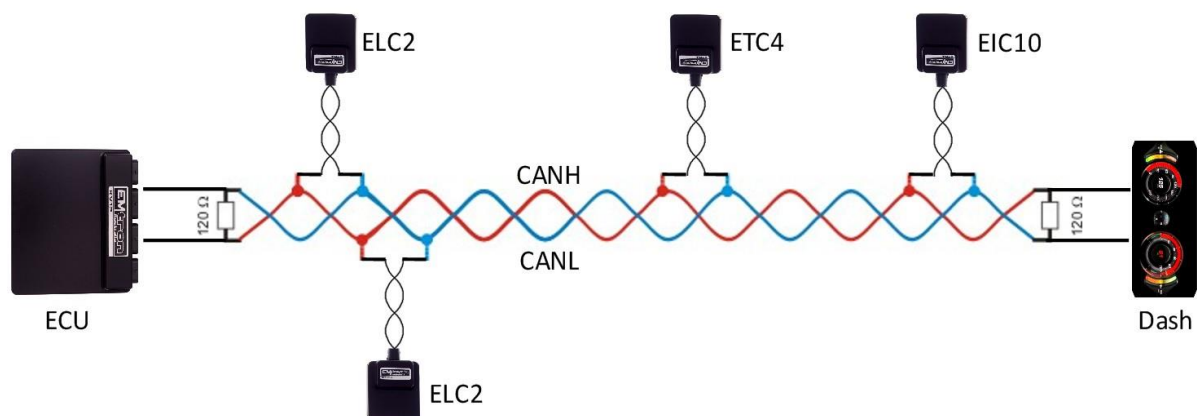

Figure 3.1. Example. ECU and Dash at each end with 120 Ohm Termination
- CAN Bus termination must be done correctly by using a 120 ohm 0.25W resistor at each END of the bus system. See the example in Figure 3.1.
ALL Emtron CAN devices do **not** include an on-board CAN termination resistor, allowing the device to be wired at any position on the Bus. CAN Bus termination must be done correctly by using a 120 ohm 0.25W resistor at each end of the bus system as mentioned above. Figure 3.1. CAN Bus Wiring